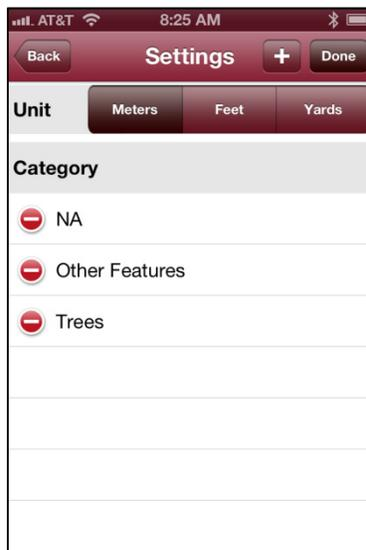

Figure 15
3. Tap the minus sign next to the category to be deleted (Figure 15). In this example, the category "Other Features" is selected for deletion.